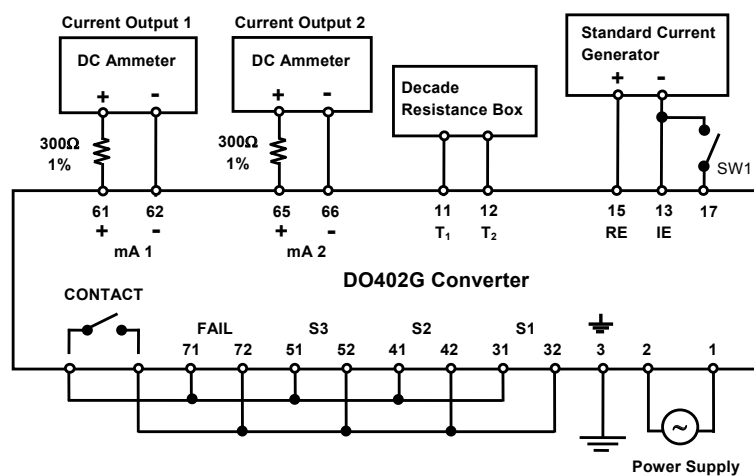

Figure 1 Testing Circuit and Test Equipment
- Connect the testing circuit as shown in Figure 1. Allow the instrument to warm up for at least 5 minutes before conducting the tests. For the connections for the insulation resistance test, follow the instructions in Sections 3.1 and for the dielectric strength test, follow the instructions in Section 3.2.